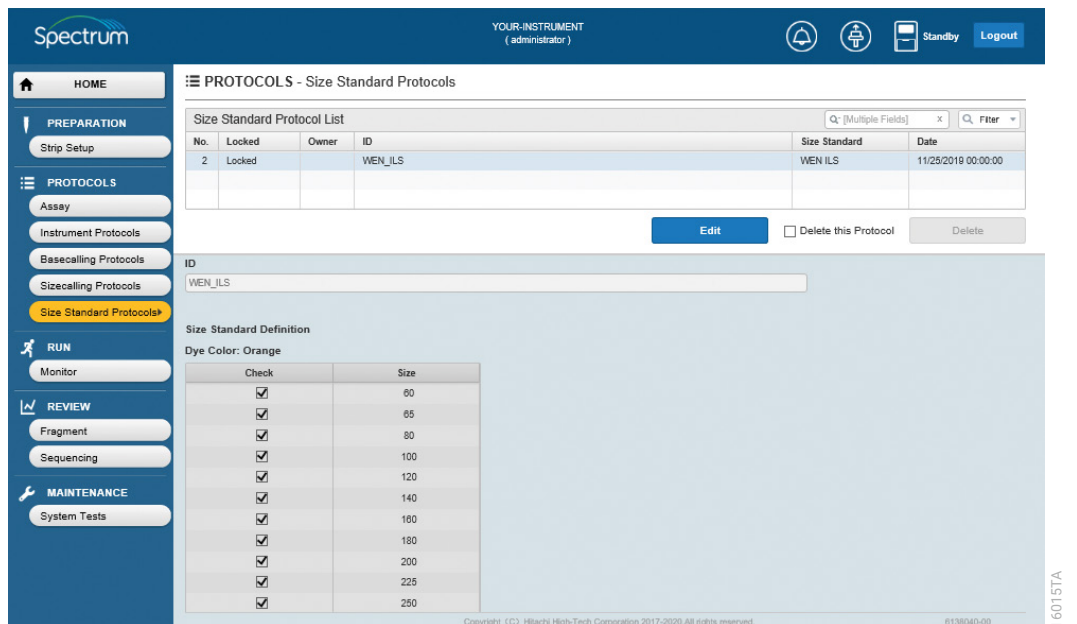

Figure 67. 'Size Standard Protocols' screen with active edit button.
7. Select the Size Standard Protocol ID in the Size Standard Protocol List to edit. This will activate **Edit** and the check boxes adjacent to the individual fragment sizes (Figure 67).
1. Select **Size Standard Protocols** under PROTOCOLS from the Main Menu of the 'HOME' screen (Figure 12) and then select the Size Standard Protocol ID in the Size Standard Protocol List that you want to delete (Figure 67).
2. Check the "Delete this Protocol" box and select **Delete** (Figure 67).